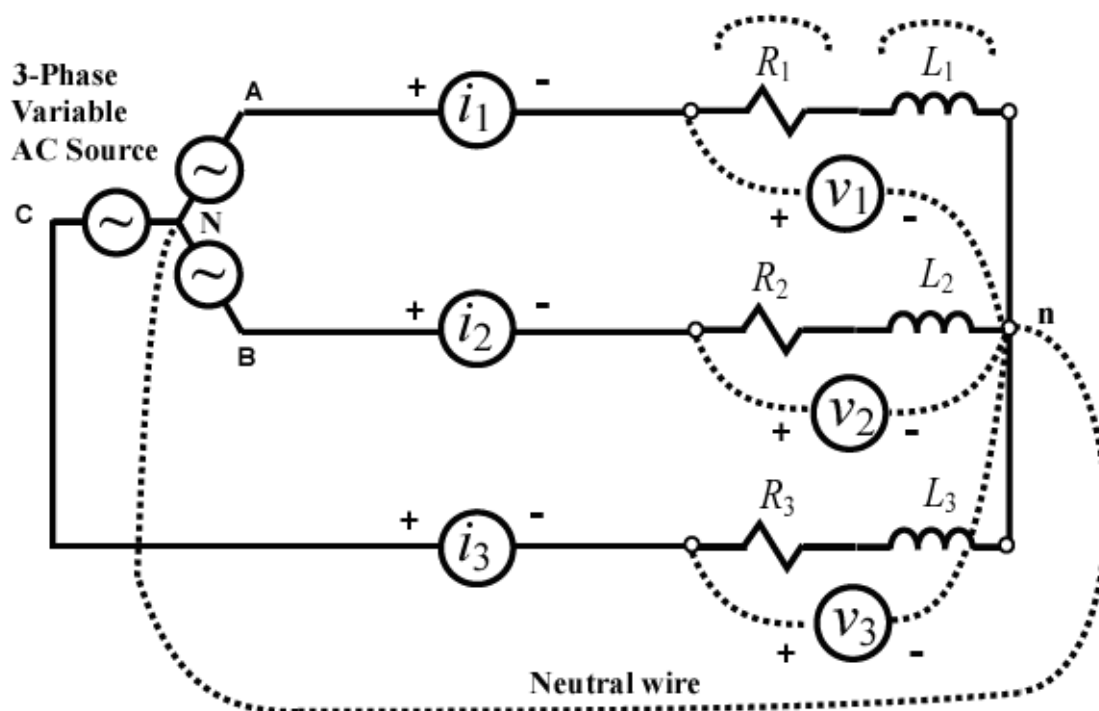

Fig. 6: Three-phase Y-connected RL load wiring diagram.
- 1) Using the **RL Load Box**, wire the circuit shown in Fig. 6 below. Ensure that your current and voltage meters have the correct relative polarity, as shown in Fig. 6. Alternatively, some of your measurements may be 180 degrees out of phase. First, connect only the current measurement circuit and the Wye-connected RL load. You will then be using short red wires to bypass (short-circuit) elements in one of the phases, as well as to connect the neutral points of the source and the Load.